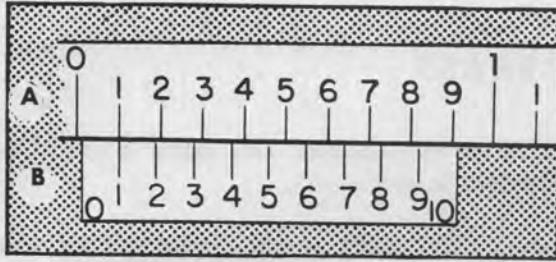

Fig. 5
For example, Fig. 5 shows a setting where the number one division of the vernier scale (B) matches the number one division on the millimeter scale (A). This indicates a reading of one tenth of a millimeter. When the second line on the vernier coincides with the number two division on scale A, the vernier has moved two tenths of a millimeter.